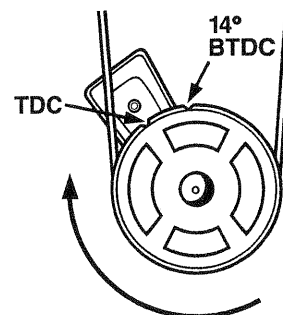

Figure 15: Timing Marks
- e. The crankshaft pulley notch mark for 14° Before Top Dead Center (BTDC) should now align with the timing pointer (Figure 15). If it does not, the injection pump needs to be timed.